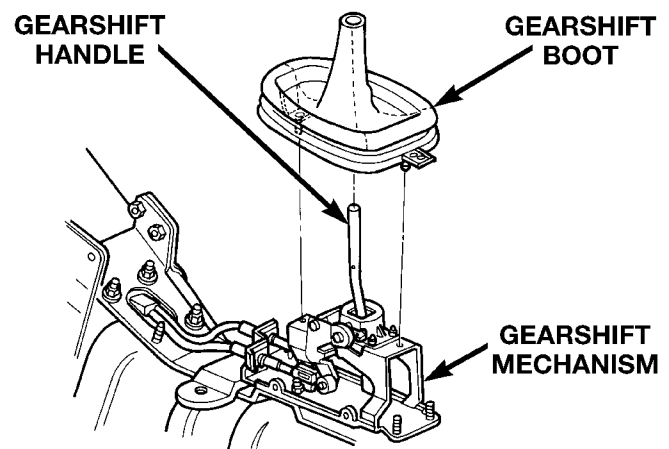

Fig. 9 Gearshift Boot
- (3) Snip the plastic retaining clips at the base of the boot (Fig. 9). Remove the boot from the gearshift mechanism.